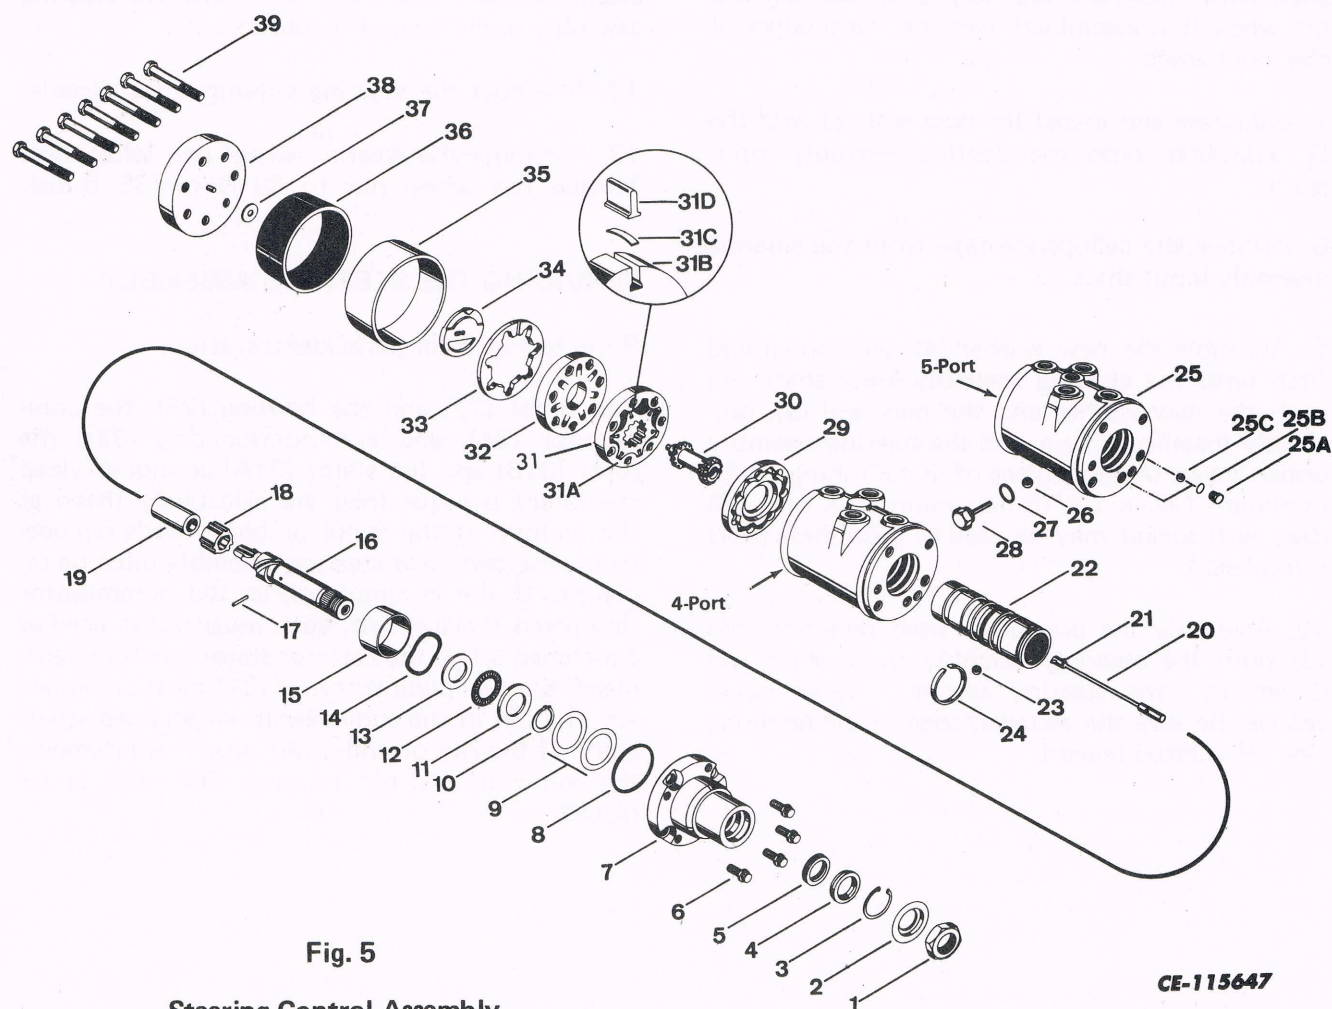

Fig. 5
For numerous installations, you may want to purchase the J26910 tool kit available from KENT MOORE, 1501 South Jackson St., Jackson, MI, 49203 - Phone (517) 784-8561. Refer to Fig. 5 for parts identification.
Refer to Fig. 5 for parts identification.
Legend for Fig. 5
NOTE: Special care should be used in the following steps to insure protection of the ground and lapped faces of the components. Avoid scratching or nicking of the finished surfaces. See Figs. 5 and 6.
4. Remove the end cover (38) by bumping it sideways with a soft hammer to loosen it from the rotor seal (36) and seal retainer (35), and lift it from the unit.
NOTE: *The washer (37) and commutator (34) may adhere to the end cover, and may be removed with the end cover. Do not attempt to remove the pin because it is press fitted in the plate and is non-serviceable. (See Fig. 5 and 6).*
5. Remove the rotor seal (36) and the seal retainer (35) by bumping the retainer sideways with a soft hammer to loosen it from the valve body and then lift off the rotor seal and seal retainer. Discard the rotor seal. See Figs. 5 and 6.
6. If the wear washer (37) and commutator (34) were not removed with the end cover (38), remove these parts from the steering assembly. See Figs. 5 and 7.
7. Remove the commutator ring (33) from the manifold (32), by a sliding and lifting motion. Care should be used in the handling of this fragile component. See Figs. 5 and 7.
8. Remove the manifold (32) from the rotor set (31) by a sliding and lifting motion. (See Fig. 5.
9. Remove the rotor set (31), spacer (29) and drive link (30) as an assembly by grasping the spacer and removing the assembly with a sliding and lifting motion. See Figs. 5 and 8.
10. Separate the drive link (30) by sliding the rotor set (31) on the spacer (29), allowing the drive link teeth to clear the spacer hole. Remove the drive link and separate the rotor set from the spacer. Use extreme caution to keep vanes (31D)
and springs (31C) from falling out. When handling the rotor set, pressure should be applied to the rotor (31B) by gripping the rotor set between the fingers and urging the rotor into contact with the stator (31A). See Figs. 5 and 8.
NOTE: *The rotor (31B) and the stator (31A) must be kept in a matched set. See Fig. 5.*
11. Reverse the steering unit in the vise to place the input shaft (16) in a vertical position. Using a prick or center punch, mark the upper cover flange (A) in relation to a similar mark placed on the port face of the housing (25) to facilitate re-assembly. See Figs. 5 and 9.
12. Remove the four special cap screws (6) by using a 5/16 inch, 12-point socket. See Figs. 5 and 9.
13. Grasp the input shaft (16), and with a smooth upward motion, remove the input shaft (16), upper cover (7) and spool (22) assembly from the housing (25).
NOTE: *Avoid applying side forces to the spool which would cause binding of the closely fitted assembly. Never use excessive force to remove the spool from the body. See Figs. 5 and 9.*
14. Remove and discard the "O" ring (8). See Fig. 5.
15. Remove the upper cover (7) with shaft seal package (3 thru 5) intact. Remove the spacer (15). See Fig. 5.
16. Remove the shims (9) from either the upper cover (7) cavity or from the face of the thrust washer (11). Count and record the number of shims to aid in the reassembly of the unit.
17. Remove the retaining ring (3), using snap ring pliers. Remove and discard the back-up washer (4). Remove and discard the seal (5). See Fig. 5.
18. Remove the retaining ring (10), thrust washer (11), thrust bearing (12), thrust washer (13) and wave washer (14) from the input shaft (16). See Fig. 5.
19. Remove the needle roller (17) by using a pin punch of 2.1 mm (.120 in) max. diameter for a minimum of 15.9 mm (.625 in) length. The input shaft (16) should be placed on a block of wood (to avoid shaft damage) and the needle pin removed by impact, using light hammer blows. See Figs. 5 and 10.
20. Remove the torsion bar (20) and spacer (19) by inverting the spool assembly and allowing the parts to fall free. Do not remove the pin from the torsion bar. See Figs. 5 and 11.
21. Remove the drive ring (18) by placing the end of the spool (22) on a table surface, rotating the input shaft (16) the extremes of travel until the drive ring falls free. See Figs. 5 and 12.